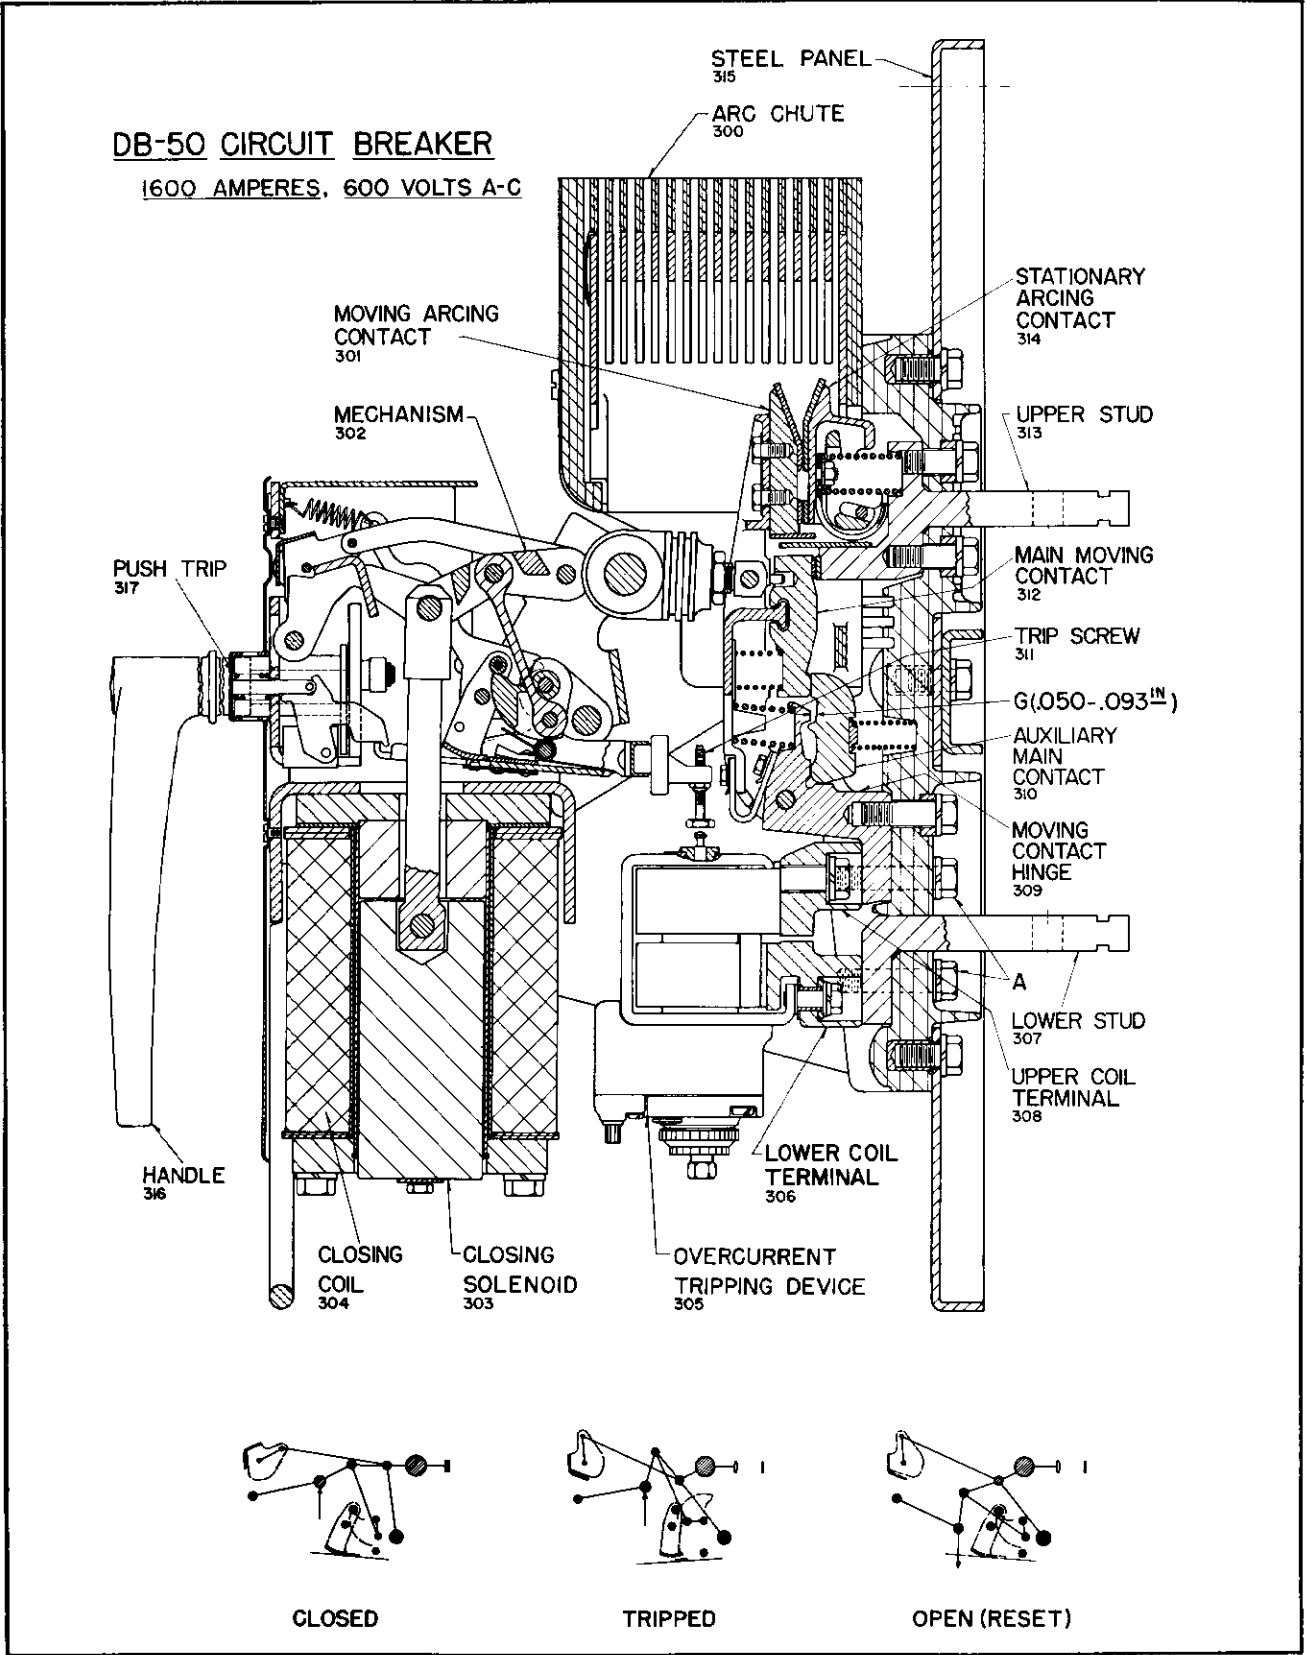

Fig. 3 - Cross-Sectional View of Type DB-50 Circuit Breaker
Each pole unit is mounted on a separate molded base through which the breaker studs pass. (See Fig. 3.) The molded bases are attached to the steel mounting panel and provide insulation for the breaker studs.
#### Contacts. (See Fig. 3.)
The operating mechanism (see Fig. 3) is non-adjustable and consists of a series of
**CAUTION:** Before removing or installing a tripping device, be sure that the breaker is in the open position and de-energized. To remove an overcurrent tripping device from the breaker, remove the four bolts A Figure 3 which hold the tripping device to the breaker base. Before removing the last bolt, hold the tripping device to prevent it from falling.
To install the overcurrent trip to the circuit breaker it is merely necessary to insert the device into the pole unit so that the upper coil terminal makes contact with the lower part of the moving contact hinge and the lower coil terminal contacts the lower breaker stud as shown in Fig. 3. The unit is then bolted in this position by means of four hexagon head, steel bolts 2-1/2 inches long shown at A, Fig. 3. Use only one lock washer under the head of each of the bolts. Care should be taken to make sure that bolts